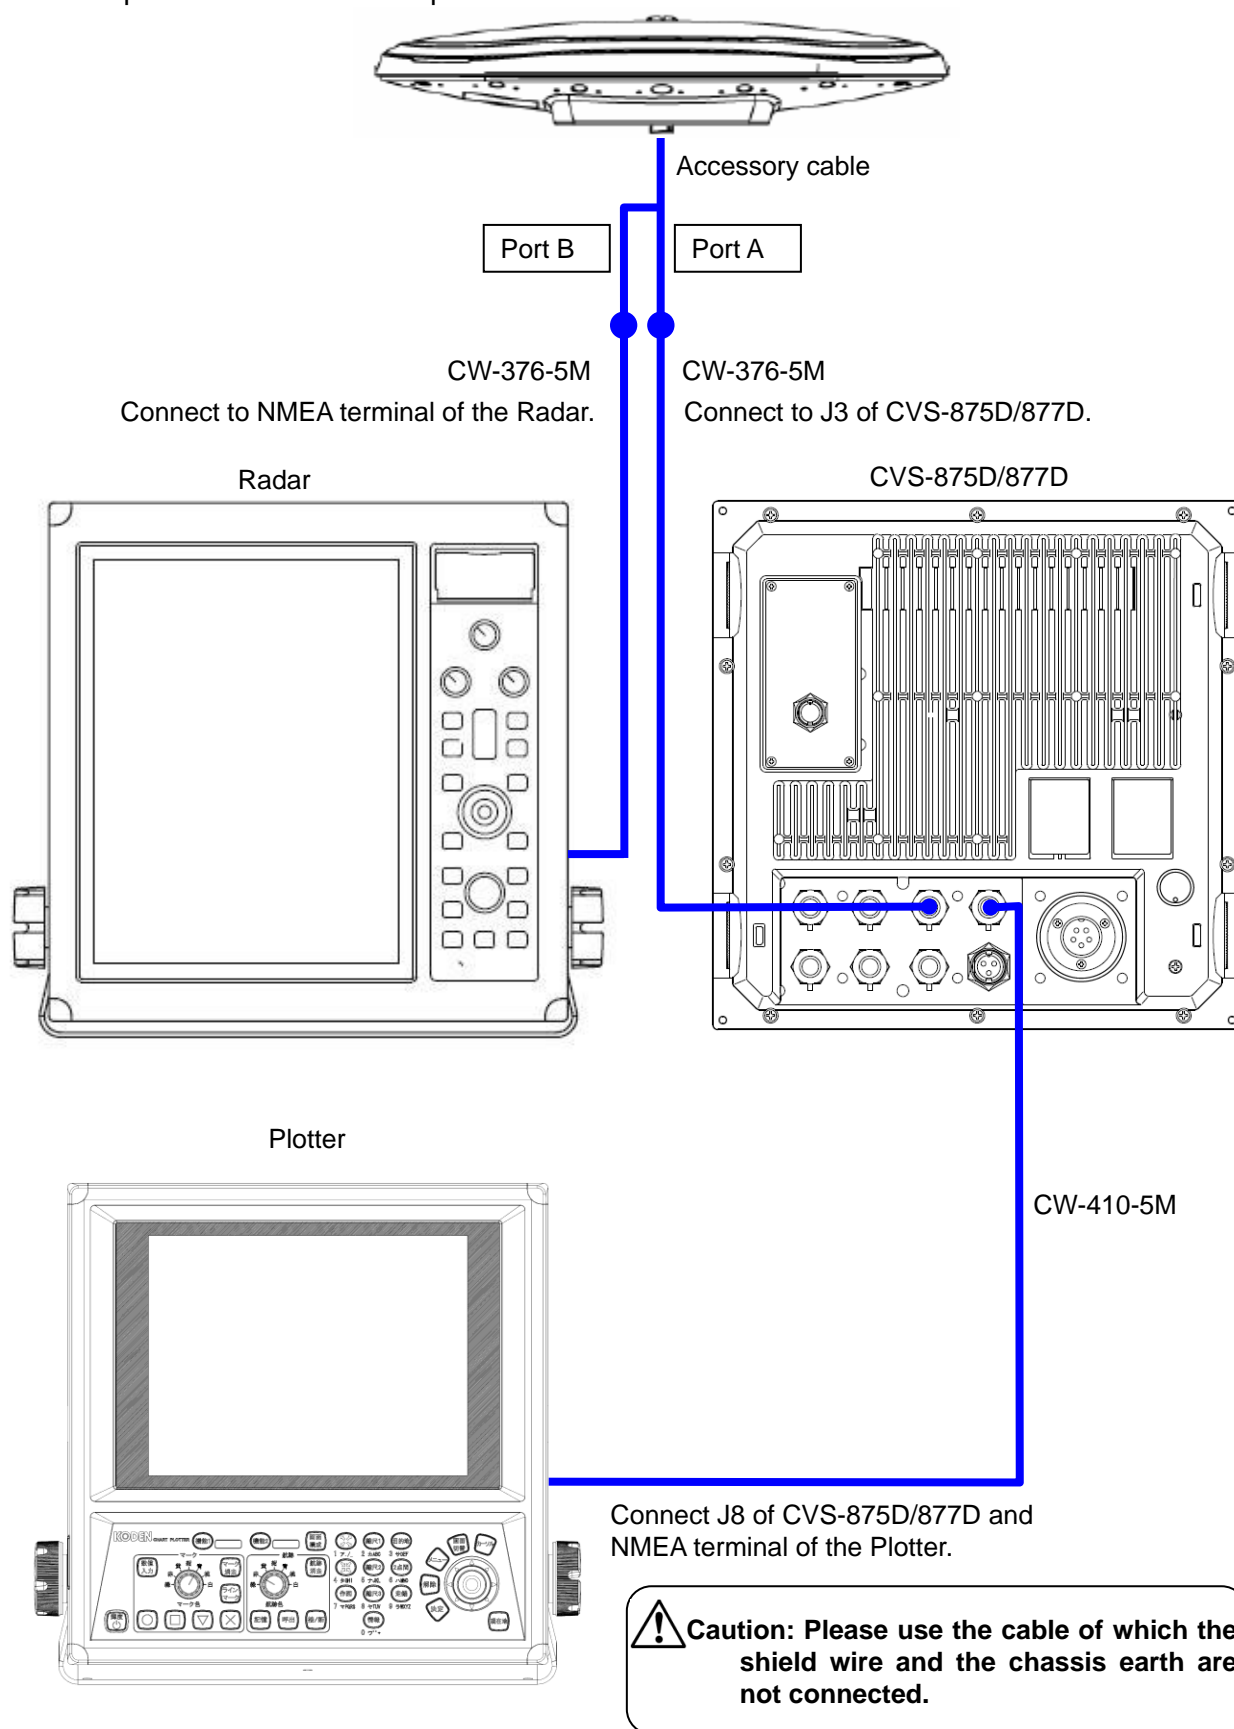
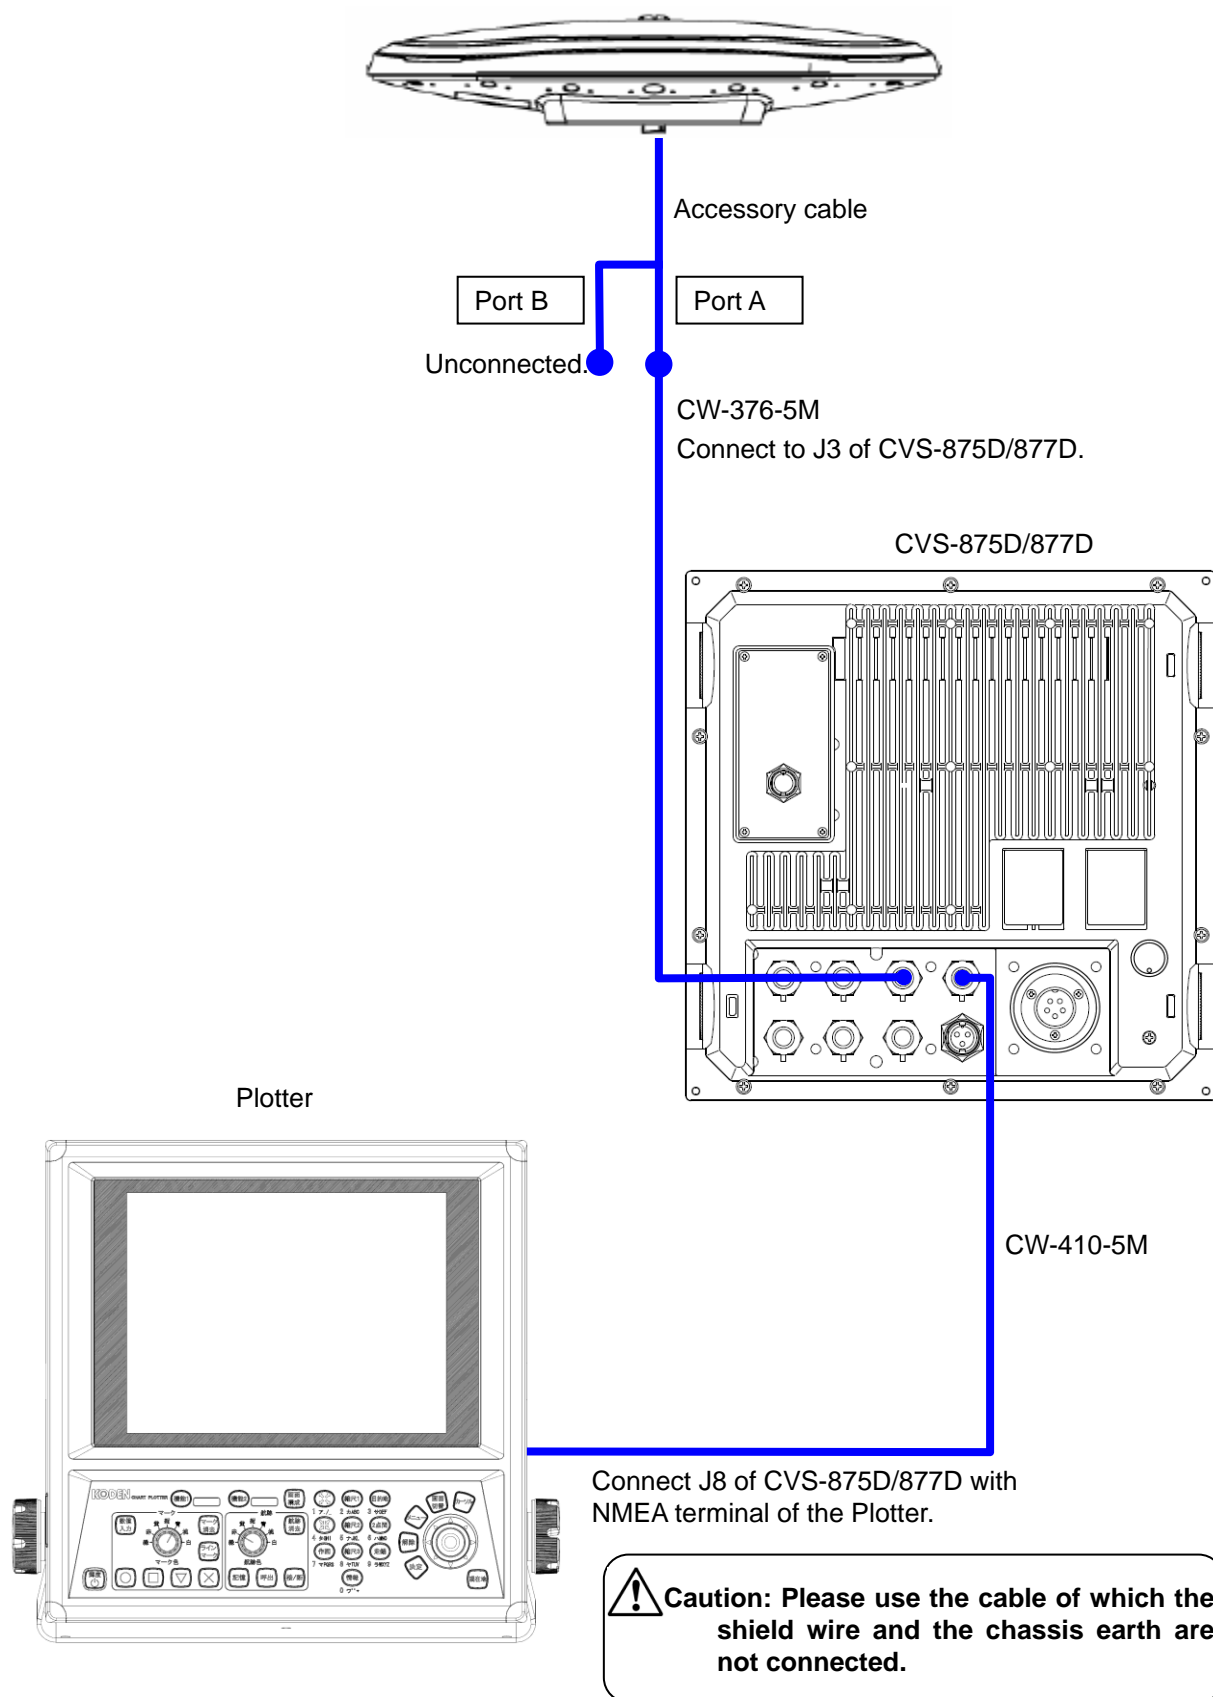

Fig. 1.72 The general connection chart 7
Fig. 1.74 The general connection chart 9
- 3) Connect CW-376-5M to NMEA terminal of Radar after soldering with Port C when connecting with Radar as GPS compass. Refer to **“Fig. 1.72 The general connection chart 7”**.
In the other cases, connection with Port B is not necessary. Refer to **“Fig. 1.74 The general connection chart 9”**.
- 4) Refer to **“Fig. 1.72 The general connection chart 7 to Fig. 1.74 The general connection chart 9”**, connect other equipment to communicate NMEA with the terminal J8 of CVS-875D/877D.